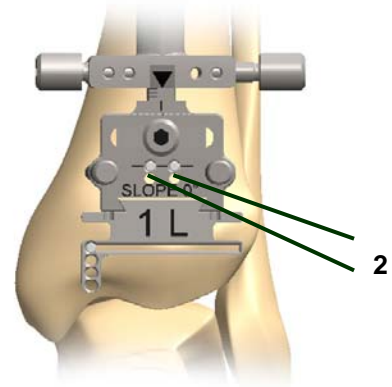

figure 12
After the height adjustment fix the resection block with two 2,5mm fixation pins on the marked (2) level (fig. 12).
Use a 1,37mm thick, narrow saw blade for the horizontal resection of the tibia. The fixation pin inserted before avoids a damage of the medial malleolus during the horizontal cut (fig. 12 and fig. 13).